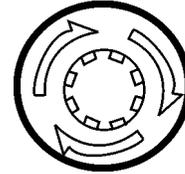

Figure 54. Emergency Stop Button
1. To stop the engine in the event of an emergency, **PUSH** the emergency stop button (Figure 54) inward. This button is located on the engine operating panel, see Figure 5.